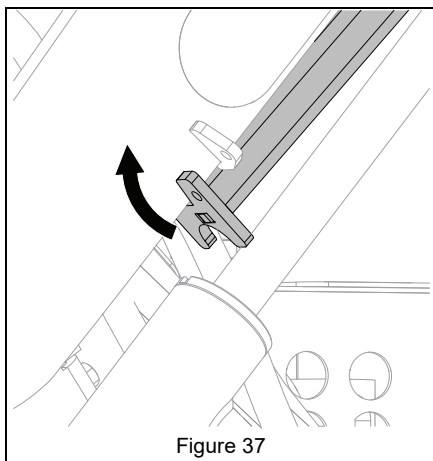

Figure 37
3. Raise lift arm support into position against lift arm. See Figure 37.